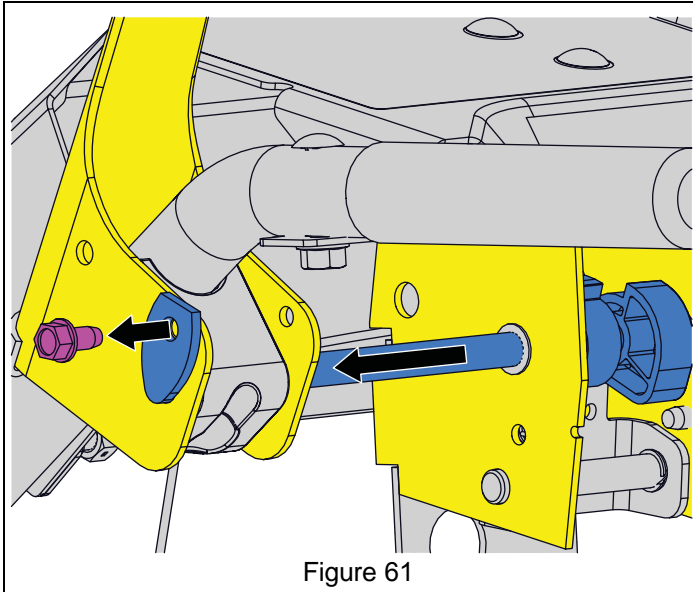

Figure 61
3. Remove hardware retaining camshafts to clutch levers and remove camshafts from interlock bracket. See Figure 61.